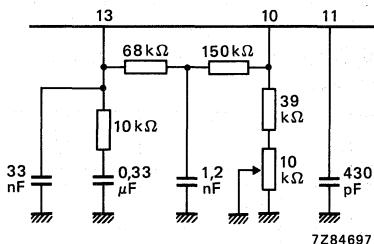

Fig. 2 PLL-filter for $\alpha_2 = 70$ dB at $V_P = 15$ V
3. PLL-filter for reduced intermodulation (α_2); see Fig. 2.